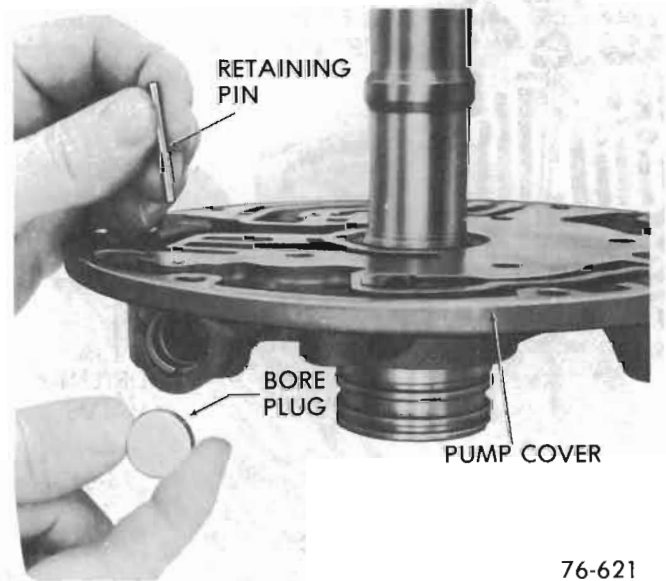

Figure 76-159
8. Remove the retaining pin and bore plug from the pressure regulator bore. See Figure 76-159.